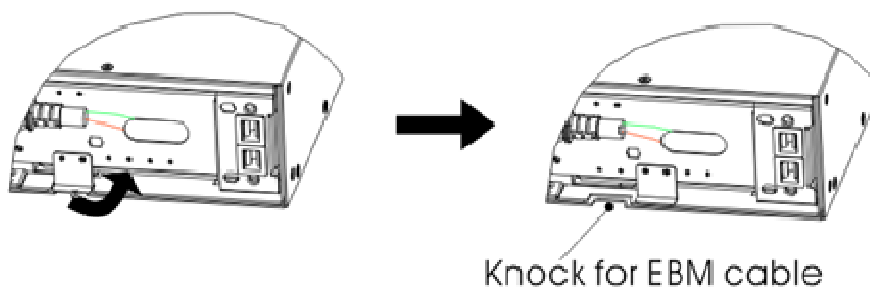

Figure11 Removing the UPS Cable Knockout
1. Remove the front cover of each EBP and UPS (see Figure 11).